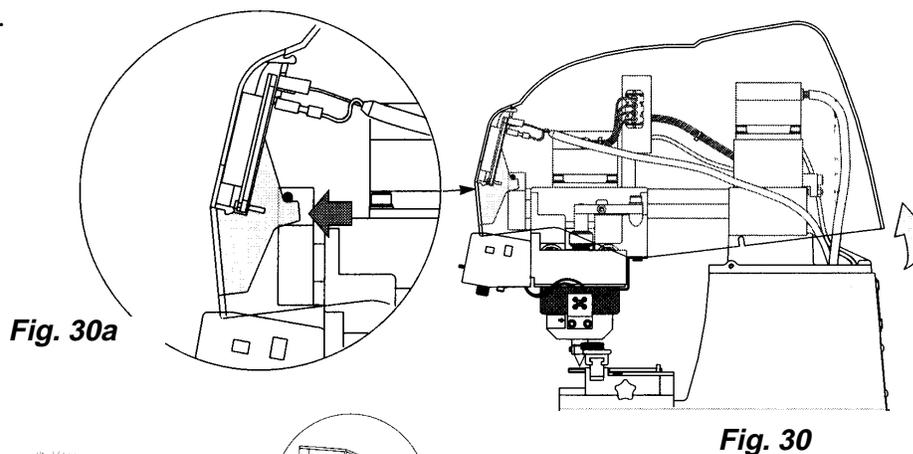

Fig. 30
3. Slightly tilt the rear of the cover up (Fig 30) and very carefully pull forward, releasing it from the front catches (Fig 30a).